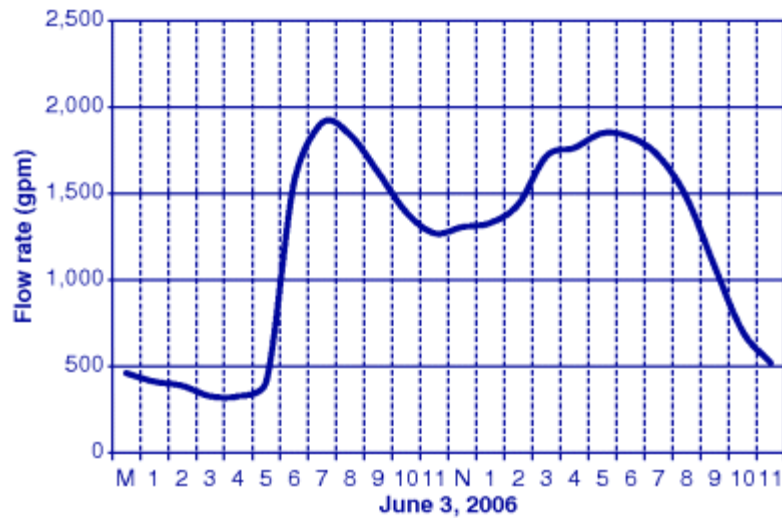

Figure 7.38 Wilkes City Wastewater Metered Flow Rate (Used in Problem 7.19)
7.19 The recorded metered flow for June 3 at the Wilkes City wastewater treatment plant is shown in Figure 7.38. (a) Estimate the average flow rate for June 3.